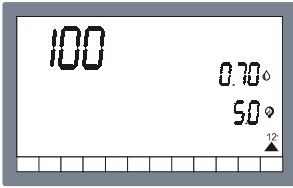

Fig.16:
To do this, display the nozzle selection screen as described earlier and bring the flashing nozzle symbol into the (12) position (fig.16); the display will contain the indication of the number of litres per minute delivered by the nozzle at a given pressure (in the example, the nozzle delivers 0.70 l/min at a pressure of 5.0 bar).